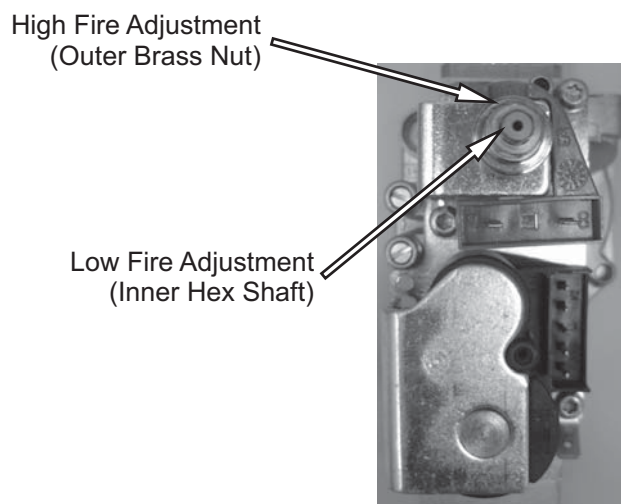

Figure 12.7: Gas Pressure Adjustments (Pry Off Transparent Cover to Access)
- i) If an adjustment is necessary, turn the inner black hex shaft clockwise to increase the manifold pressure or counter-clockwise to reduce the pressure (Figure 12.7).